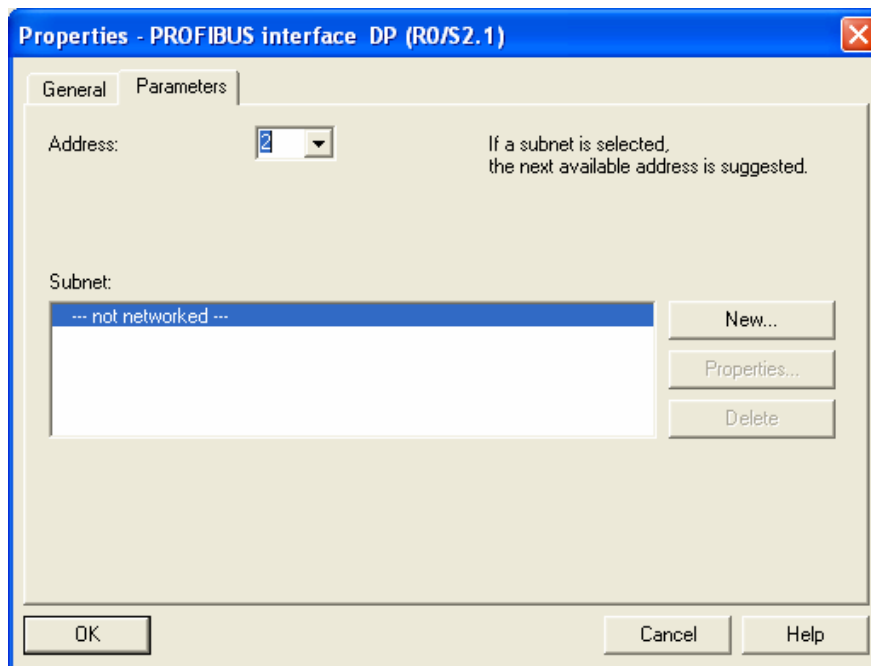

Figure 10-12
4. In this dialog box, select an address for the master and click “New” to open another dialog box, as Figure 10-12.